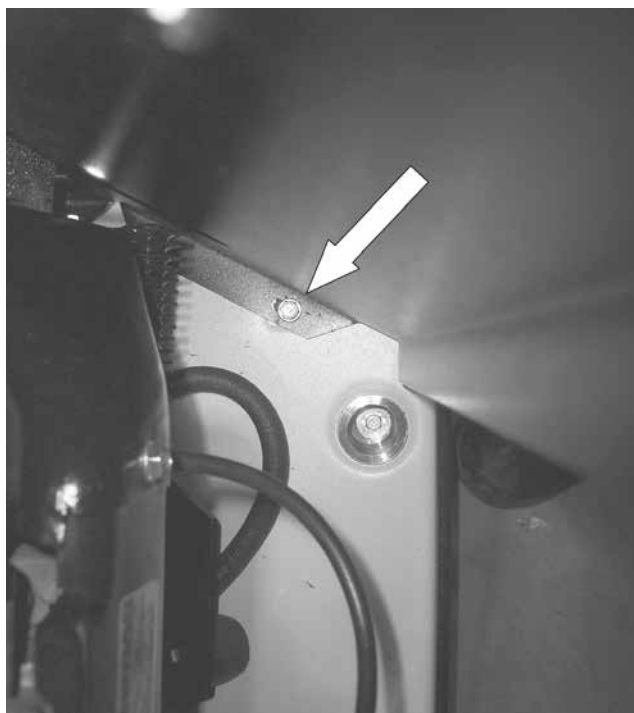

*Figure 239.*
11. **Remove fuel regulator:** Remove the two fuel hoses at the top of the regulator. Using a 10 mm socket remove one 10 mm bolt from the base of the plenum and one 10 mm bolt from the base of the fuel regulator. Flex the enclosure side out to allow for room to remove the regulator assembly. See Figure 239.